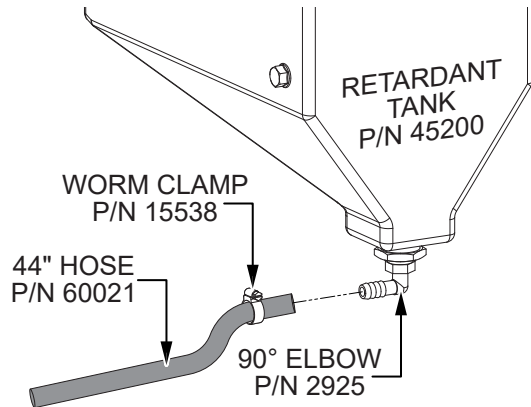

Figure 7. Connect Retardant Tank Hose
1. Use a worm clamp (P/N 15538) to secure one end of the 44-inch hose (P/N 60021) to the 90-degree elbow (P/N 2925) at the bottom of the retardant tank (P/N 45200). See Figure 7.